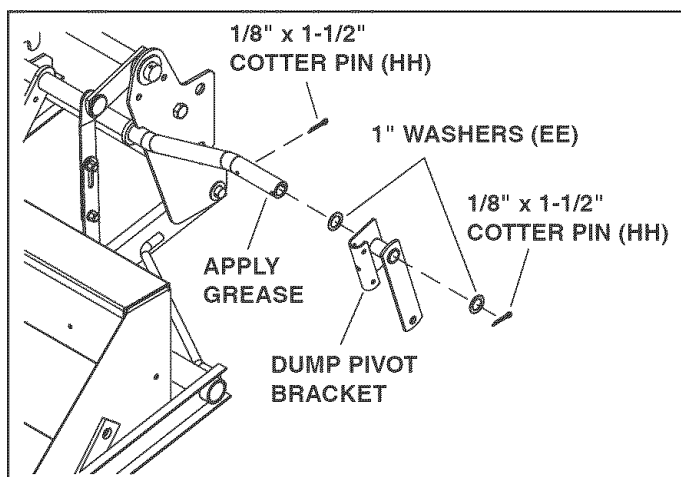

FIGURE 7
#### STEP 8: INSTALL DUMP PIVOT BRACKET (SEE FIGURE 7)
- Install a 1/8" x 1-1/2" cotter pin (HH) to the inside hole in the shaft shown in figure 7, and then install a 1" washer (EE) onto the shaft. Apply grease to the end of the shaft and install the dump pivot bracket assembly onto the shaft. Install a 1" washer (EE) onto the shaft and secure it using a 1/8" x 1-1/2" cotter pin (HH).